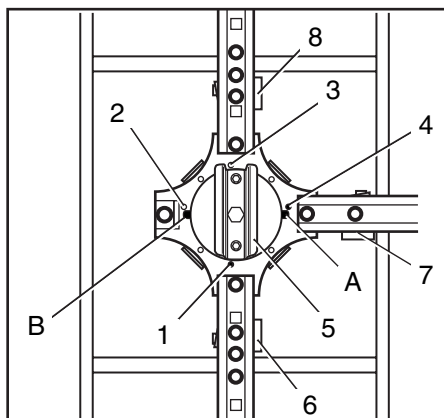

Fig. 24.1 Swivel plate
ATTENTION Be sure the pins are screwed in like items 1 and 4 in Fig. 24.1.